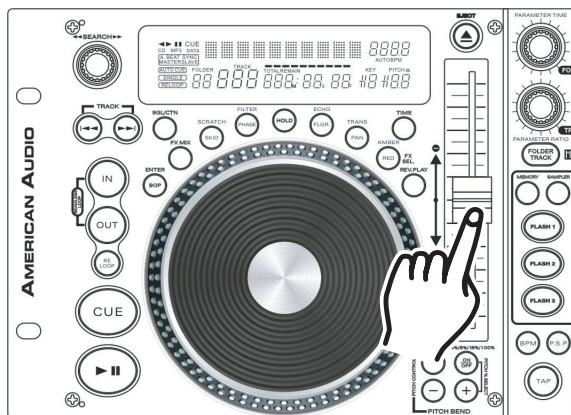

Figure 43
The (+) *PITCH BEND BUTTON* (27) will increase track playback speed and the (-) *PITCH BEND BUTTON* (26) will decrease track playback speed. The extent to which the speed changes is proportionate to the amount of time the button is pressed. For example, if the (+) *PITCH BEND BUTTON* (27) is held down continuously as in figure 43, the disc speed will increase and will continue to increase until it reaches a maximum of 100% speed gain. When you release the (+) *PITCH BEND BUTTON* (27) the disc speed will automatically return to its previous set speed.